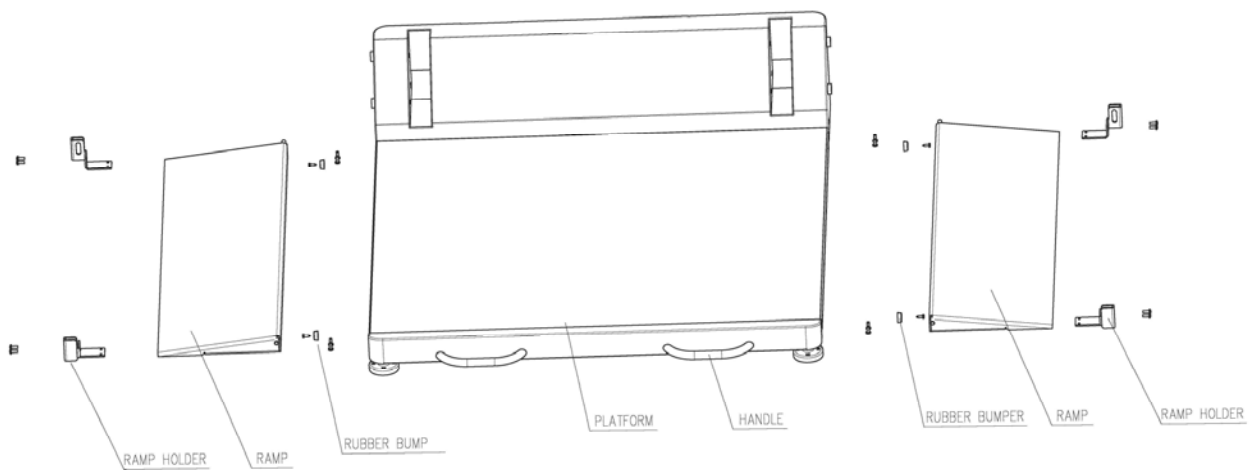

Figure 2
4. Remove the screws attaching the 2 rubber bumpers, located on the side of the platform (see Figure 2).
5. Remove the bumpers, and re-install them on the opposite side of the platform. Use the appropriate mounting holes (see Figure 2).